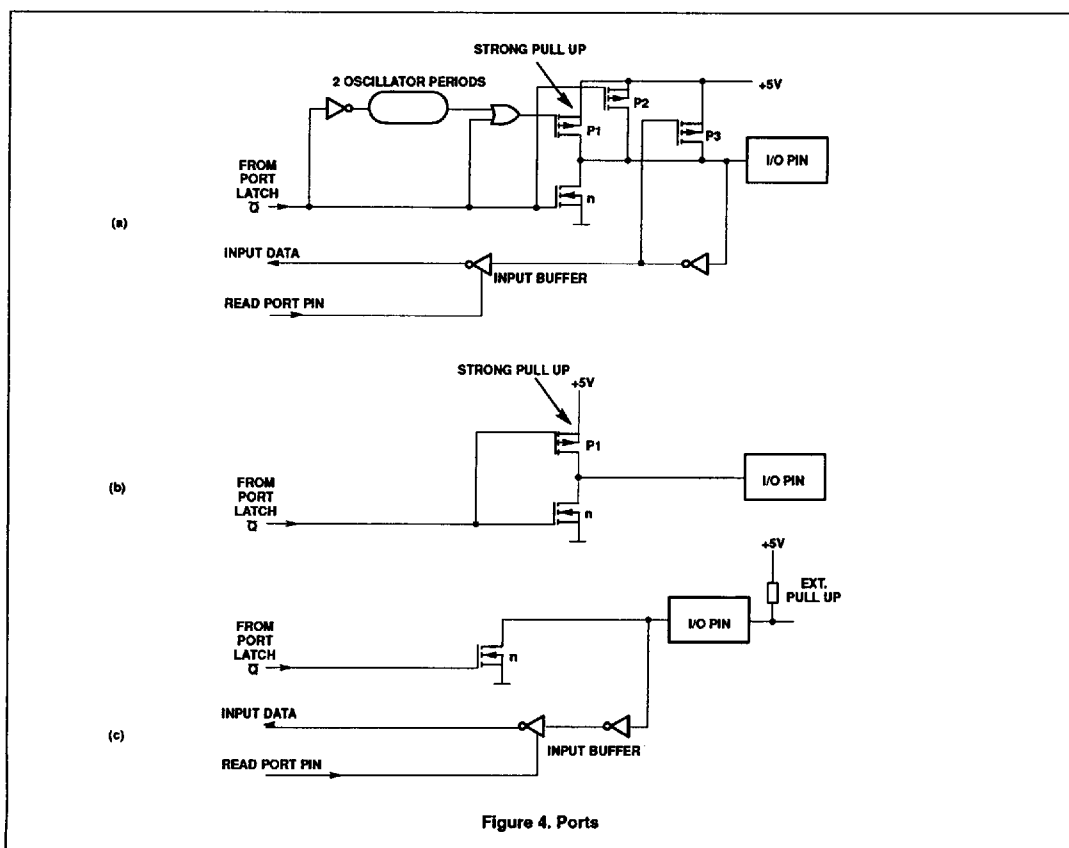

Figure 4. Ports
Each port consists of a latch (Special Function Registers P0 to P3), an output driver and an input buffer. Ports 1,2,3 have internal pull-ups. Figure 4(a) shows that the strong transistor p1 is turned on for only 2 oscillator periods after a 0-to-1 transition in the port latch. When on, it turns on p3 (a weak pull-up) through the inverter. This inverter and p3 form a latch which hold the 1. In Port 0 the pull-up p1 is only on when emitting 1s for external memory access. Writing a 1 to a Port 0 bit latch leaves both output transistors switched off so the pin can be used as a high-impedance input.
Thirty of the 32 parallel port pins may be individually configured with one of the following options (see Figure 4). Please note
**Option 1: Standard Port;** quasi-bidirectional I/O with pull-up. The strong booster pull-up p1 is turned on for two oscillator periods after a 0-to-1 transition in the port latch (see Figure 4(a)).
**Option 2: Open drain;** quasi-bidirectional I/O with n-channel open drain output. Use as an output requires the connection of an external pull-up resistor (see Figure 4(c)). This option does not include the internal protection diode against  $V_{DD}$  for port P1.6 and P1.7.
**Option 3: Push-Pull;** output with drive capability in both polarities. Under this option, pins can only be used as outputs (see Figure 4(b)).
**Option 2:** Open drain; quasi-bidirectional I/O with n-channel open drain output. Use as an output requires the connection of an external pull-up resistor (see Figure 4(c)).
The status of the external pins during Idle and Power-down mode is shown in Table 2. If the Power-down mode is activated whilst accessing external memory, port data held in the Special Function Register P2 is restored to Port 2. If the data is a logic 1, the port pin is held HIGH during the Power-down mode by the strong pull-up transistor p1 (see Figure 4(a)).